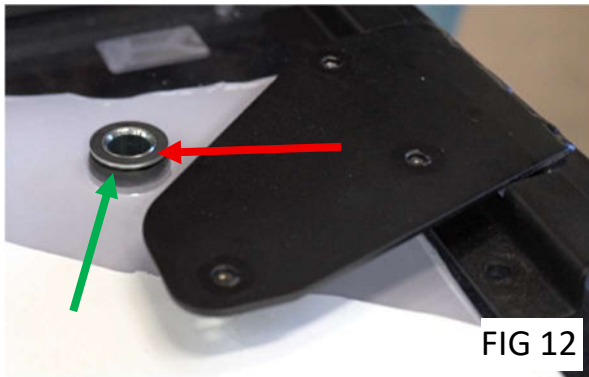
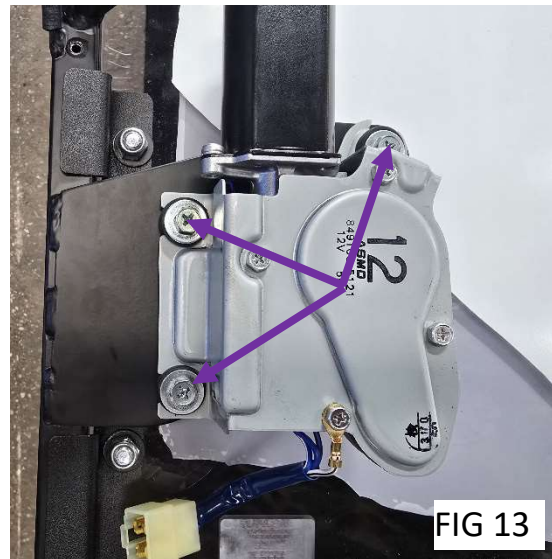
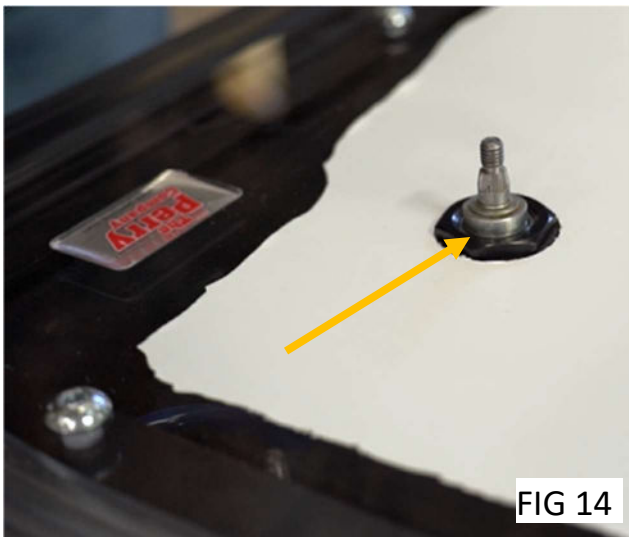
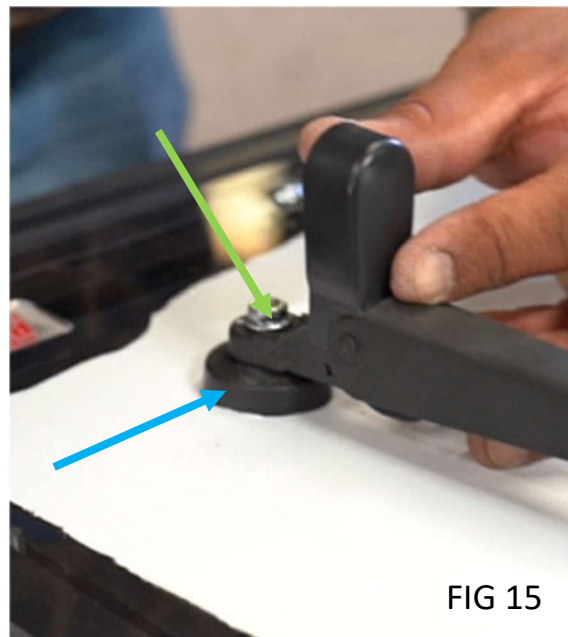

FIG 12
FIG 13
FIG 14
FIG 15
Install the **rubber grommet** and the **metal grommet sleeve** for the wiper motor as shown in **FIG 12**. Reinstall the wiper motor onto the frame using the (3) screws that were retained from Step 2 using a 10mm socket and ratchet as shown in **FIG 13**. Flip the frame and polycarbonate over and reinstall the nut onto the wiper shaft as shown in **FIG 14**. Place the rubber seal, wiper arm and nut onto the wiper shaft and tighten using a 10mm socket and ratchet as shown in **FIG 15**.